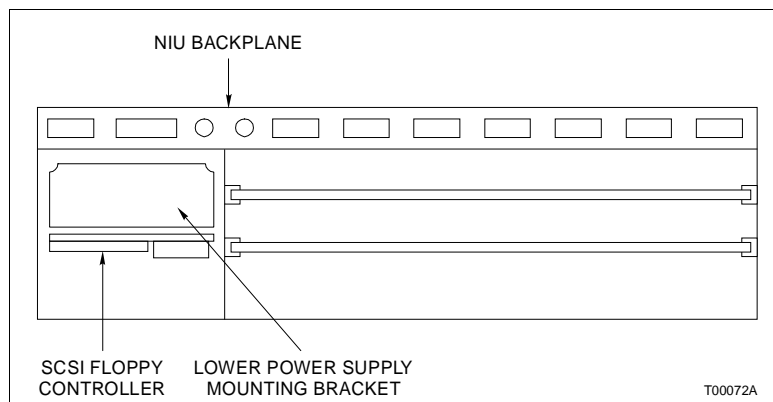

Figure PR63-2. SCSI Floppy Controller Replacement
- 6. Slowly pull the lower power supply mounting bracket out of the NIU card cage (Fig. PR63-2), labelling and disconnecting all cables from the lower power supply and the SCSI floppy controller while doing so.